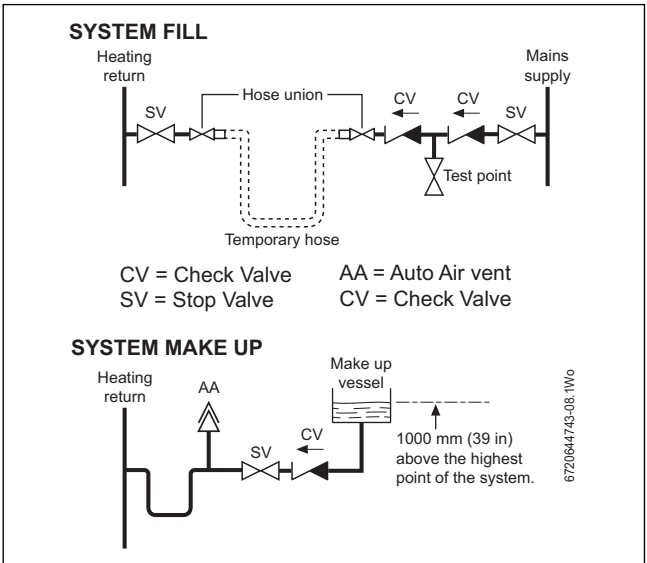

Fig. 5 Example of system fill
- The CH sealed system must be filled using an approved filling loop or comply with figure 5 for system fill.